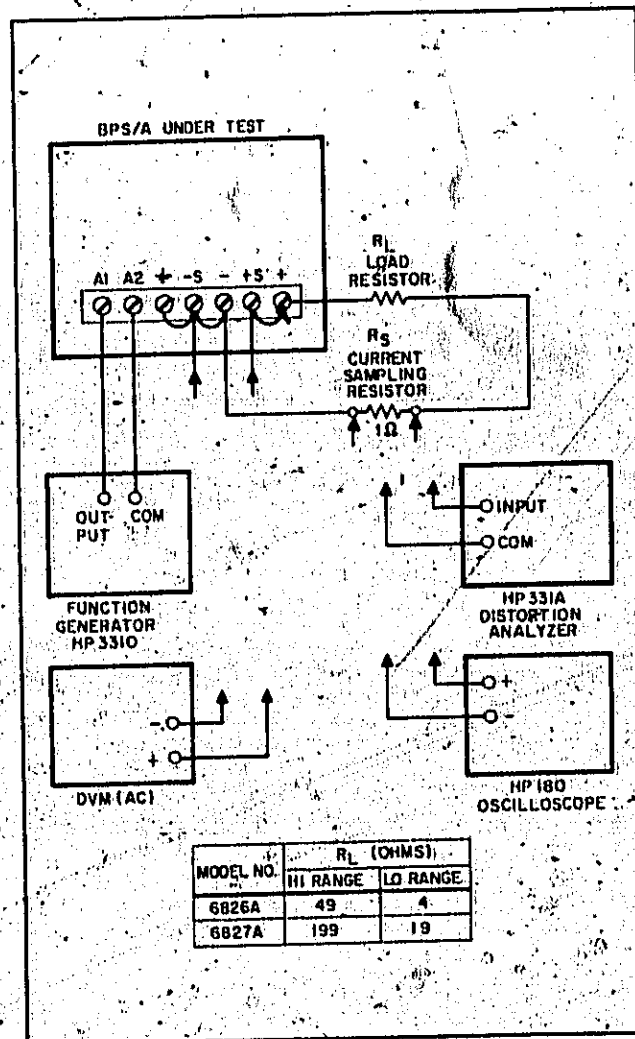

Figure 5-16. Amplifier Mode Test Setup
- a. Connect the test setup as shown in Figure 5-16. Use the appropriate low range load resistor (R_L).
- a. Connect the test setup as shown in Figure 5-16.
- Connect the test setup as shown in Figure 5-16.